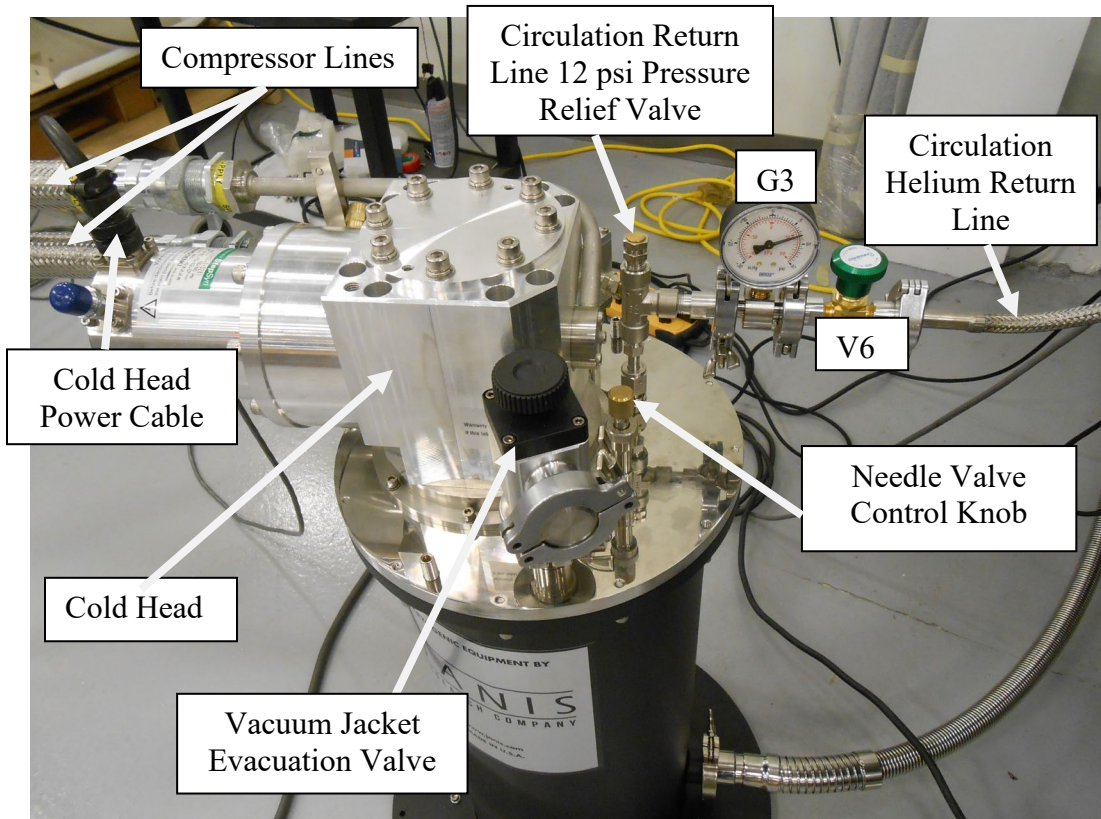

Figure 3 Cryocooler cryostat top flange
- 5.5 Connect the RGC cryocooler cryostat V6 valve inlet port with the GHS V7 valve using provided NW-16 flex return line (see **Figures 3 and 2**).
The cold head cryostat is shipped evacuated, but it must be re-evacuated prior to use. This is best done with a good pumping station (e.g., a turbo-molecular or cold-trapped rotary/diffusion pumping station) capable of bringing the ultimate pressure down to 10^{-5} Torr or less. An engineering drawing showing the details of your system, including the evacuation valve, is enclosed for your reference (see also **Figures 3 and 1**). A mass spectrometer helium leak detector may optionally be used to ensure that there are no leaks from the outside of the dewar, or from either reservoir into the vacuum space.
- Connect the cold head high pressure lines to the compressor and cold head (see **Figure 3**).
- Connect the supplied electrical cable from the compressor “cold head power” outlet to the matching connector on the cold head motor (see **Figure 3**).